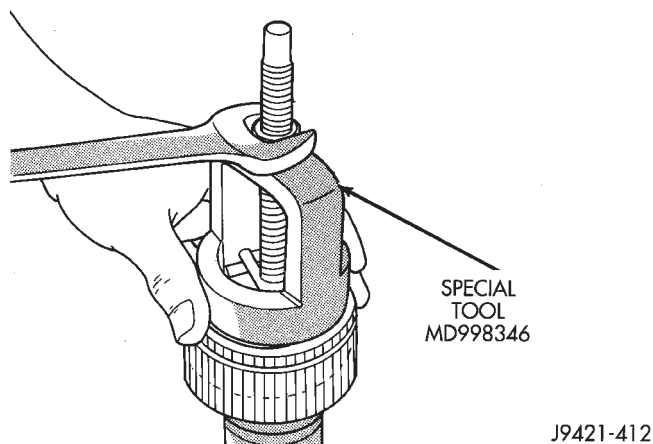
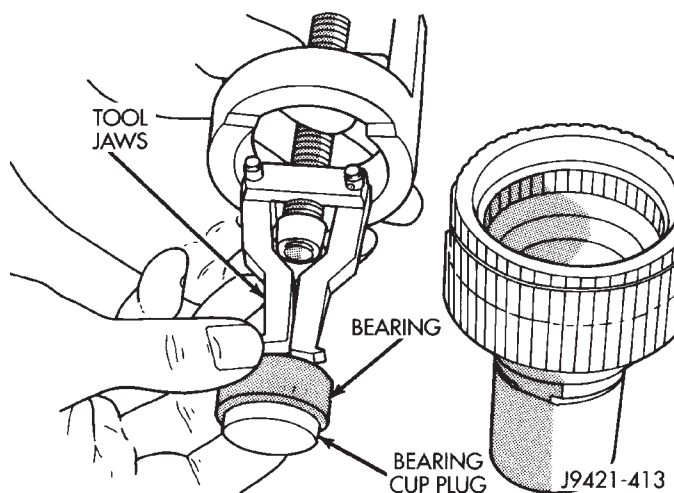

Fig. 44 Tightening Puller Nut To Pull Bearing From Gear
Fig. 45 Bearing Removed From Gear
- Grip puller bridge and turn puller nut clockwise to draw bearing out of gear (Fig. 44). **Note that bearing has built in cup plug (Fig. 45).**